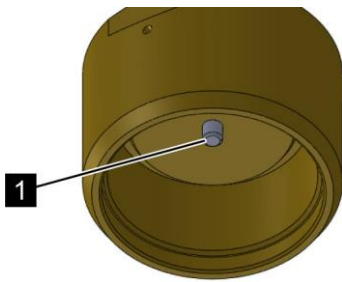

Fig. 168: Release pin
4. ➤ Check whether the release pin (Fig. 168/1) protrudes on the release device. Target dimensions: $8.1 +0.65/-0.55$ mm ($0.319 +0.026/-0.022$ inches).